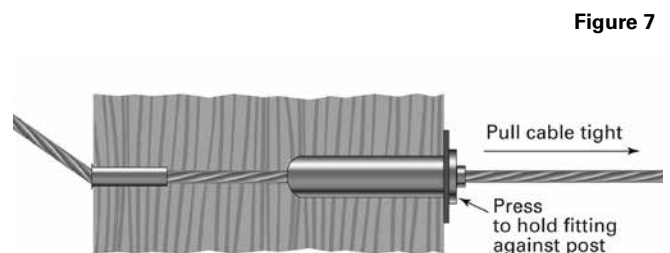

Figure 7
3. Push the Pull-Lock fitting along the cable and firmly into the hole in your post. Pull on the cable (cable gripping pliers are helpful for this) to create as much tension as possible as you seat the Pull-Lock fitting into the hole. (Figure 7)